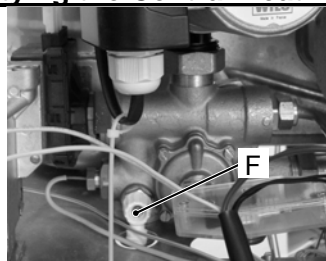

Figure 17.4
- Open the central heating drain cock (F in Fig. 17.4).